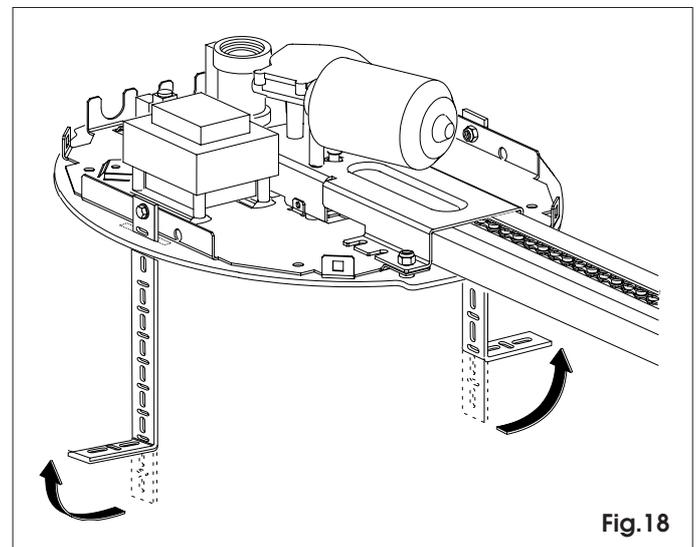

Fig. 18
7.10 Bend the securing brackets in line with the measurements you had taken (fig. 18).